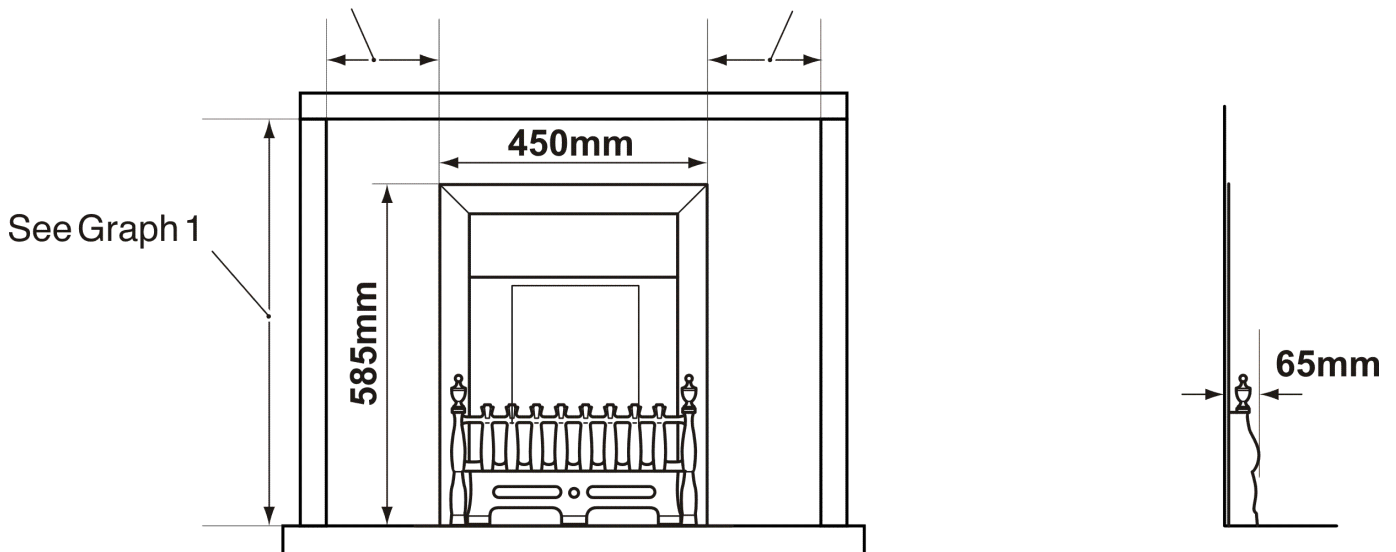

Figure 5. Appliance dimensions (Firefront may differ from that shown)
3.18 The minimum allowable distance from the outside of the appliance fascia to a corner wall having combustible material or any other combustible surface which projects beyond the front of the appliance is shown in figure 5.
A 10mm access clearance from a non-combustible surface is necessary at both sides (See figure 5).